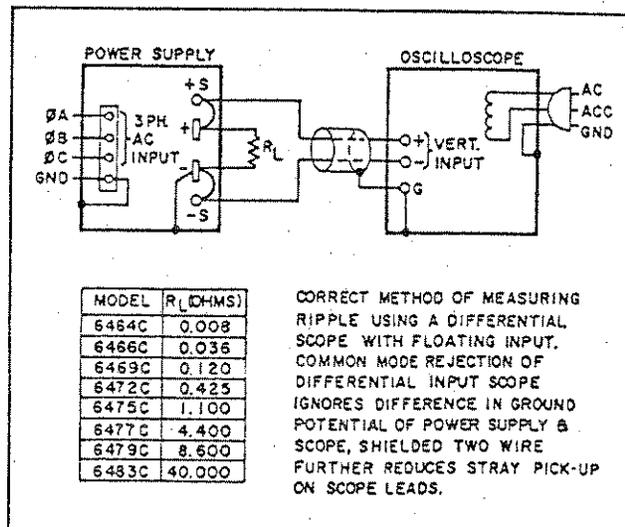
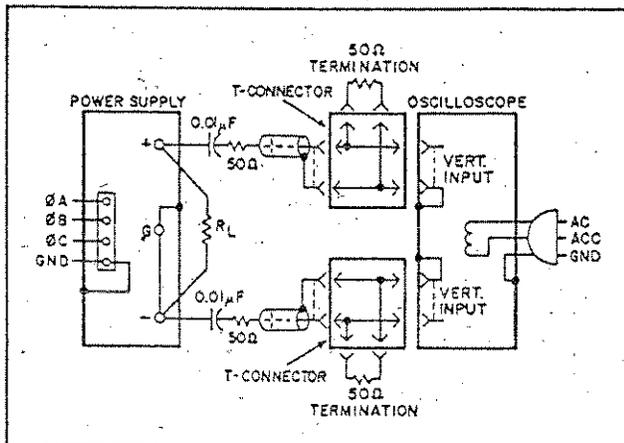

Figure 5-2. Ripple Test Setup
Figure 5-3. Noise Spike Measurement Test Setup
- Connect load resistor (R_L) indicated in Figure 5-2 across output busbars.
5-17 Figure 5-2 shows the recommended method of measuring ripple using a differential scope. If desired, two single-conductor shielded cables may be substituted in place of the shielded two-wire cable with equal success. Because of its common mode rejection, a differential oscilloscope displays only the difference in signal between its two vertical input terminals, thus ignoring the effects of any common mode signal produced by the difference in the ac potential between the power supply case and scope case. Before using a differential input scope in this manner, however, it is imperative that the common mode rejection capability of the scope be verified by shorting together its two input leads at the power supply and observing the trace on the CRT. If this trace is a straight line, then the scope is properly ignoring any common mode signal present. If this trace is not a straight line, then the scope is not rejecting the ground signal and must be realigned in accordance with the manufacturer's instructions until proper common mode rejection is attained.
- a. Connect oscilloscope or rms voltmeter as shown in Figure 5-2.
5-21 The test setup illustrated in Figure 5-2 is generally not acceptable for measuring spikes:
1. As shown in Figure 5-3, two coax cables must be substituted for the shielded two-wire cable.
5-22 The circuit of Figure 5-3 can also be used for the normal measurement of low frequency ripple; simply remove the four terminating resistors and the blocking capacitors and substitute a higher gain vertical plug-in in place of the wide-band plug-in required for spike measurements. Notice that with these changes, Figure 5-3 becomes a two-cable version of Figure 5-2.